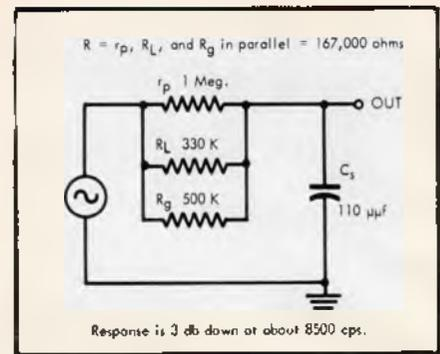

Fig. 7. Equivalent circuit of a typical pentode stage ( $V_1$  of Fig. 4).
Yet this 110  $\mu f$  of shunt capacitance could seriously affect treble response under different and quite possible conditions. Assume that  $R$  in (C) is not 31,000 ohms but 167,000 because the signal source is a pentode, as shown in Fig. 7. In this situation, the 110  $\mu f$  of shunt capacitance causes response to be 3 db down at about 8500 cps, a substantial departure from high fidelity although possibly acceptable for some other audio uses.